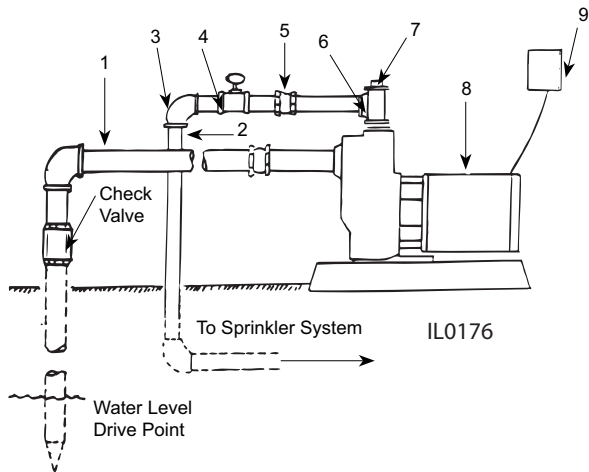

Figure 3 — From Ground Water "Drive Point"
1. Refer to Figures 3, 4, 5, and 6 for typical installations. If galvanized pipe is used, both the suction and discharge pipe should be supported at a point near the pump to avoid strains being placed on the pump.